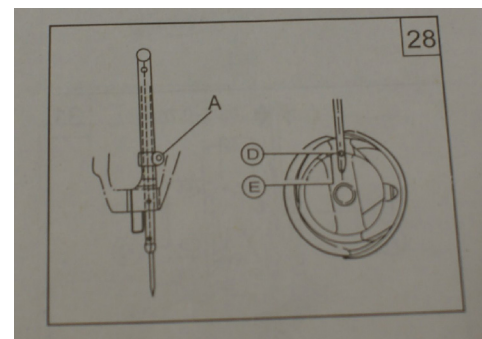

Figure 85
Step 7: Loosen Needle bar connecting screw (A) This will allow you to raise and lower the needle bar for correct location. NOTE: CHECK ALL PHOTOS BEFORE MAKING ANY ADJUSTMENTS *See figure 85*
Step 10: At lowest position turn the hand wheel to raise the needle 2.5 mm (1/8") *See figure 85*